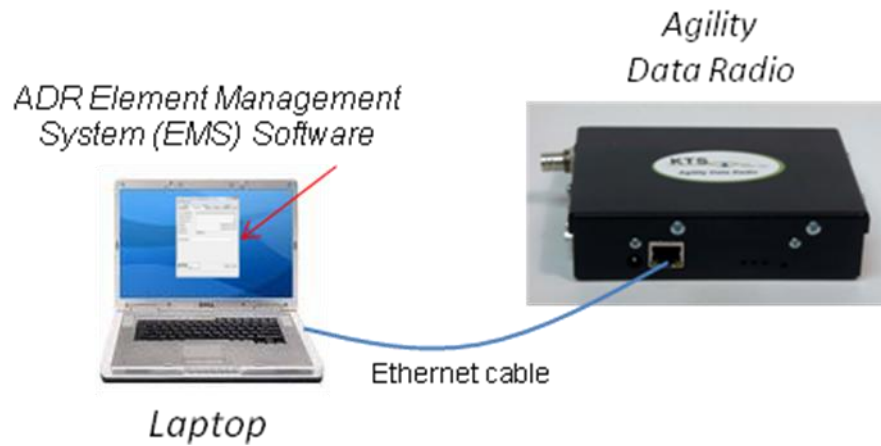

Figure 2: ADR/EMS Connection
5. Connect a laptop to the ADR as shown in the Figure 2. Double-click on the icon below to start the EMS software.